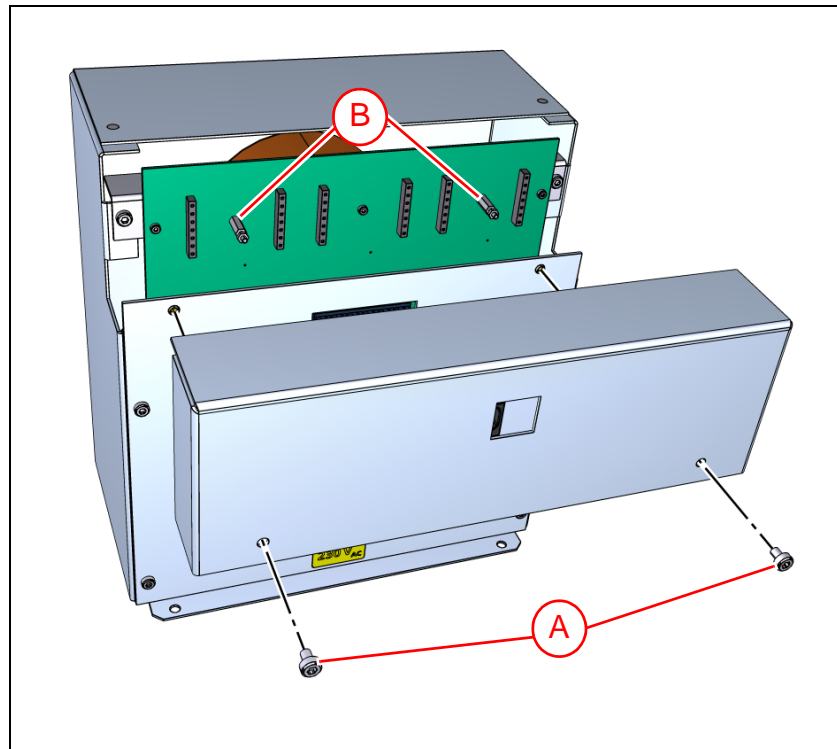

Figure 2-20. Remove cover.
7. Remove the two upper screws on the EPT3 and remove the cover ('A' in figure 2-20).